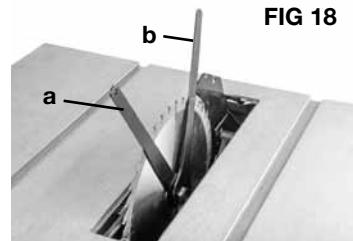

FIG 18
TO REPLACE THE BLADE (FIG 18)
5. Turn the second wrench (b) clockwise to tighten, counterclockwise to loosen. Loosen and remove the arbor nut. See FIG 18.